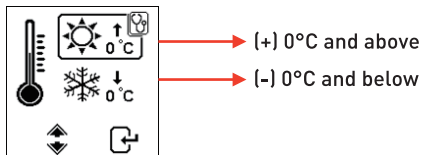

Fig.24
14. The analyser will take outside temperature into consideration and prompt for temperature input shown in Fig.24 below when it detected marginal (SOC below 75%) battery condition: